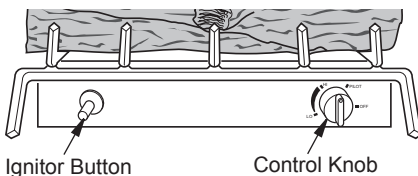

Figure 25 - Control Knob and Ignitor Button Location
- Turn control knob counterclockwise  to the PILOT position. Press in control knob for five (5) seconds (see Figure 25).